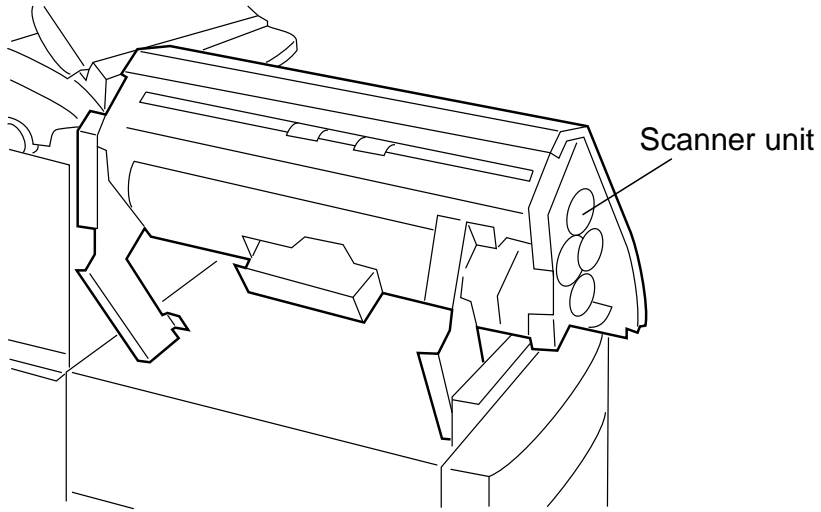

Fig. 6
- 1) Remove the left cabinet, scanner front cover, inner tray, and printer front cover. As shown in Fig. 6, incline the scanner unit.
- 1) Adjust the optical adjustment tool in the slant state as shown in Fig. 6. After the adjustment, the waveform will slightly vary if it is stood up as shown in Fig. 8.